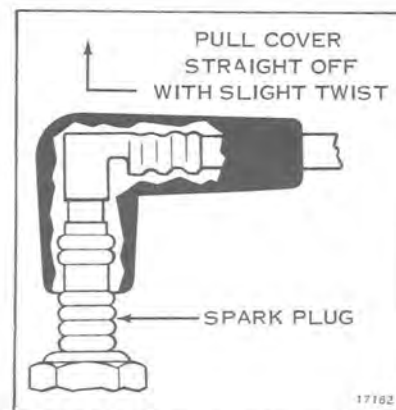

Figure 9-4
- i. Disconnect spark plug leads. See Figure 9-4.
- j. Remove (4) bolts manifold flange to muffler.